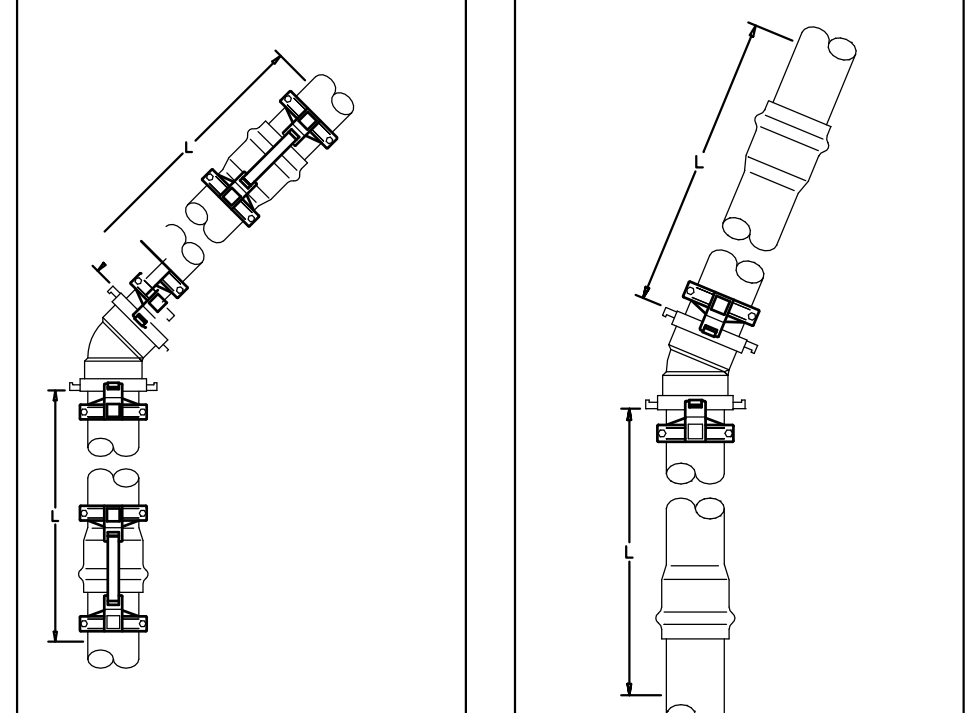

FIG. 2. 45 DEGREE ELBOW - IN SOME CASES THE ADJACENT JOINTS NEED RESTRAINTS.
- AS THE BEND ANGLE GETS SMALLER (FIG. 2 & 3) THE NEED TO RESTRAIN ADJACENT JOINTS DIMINISHES.